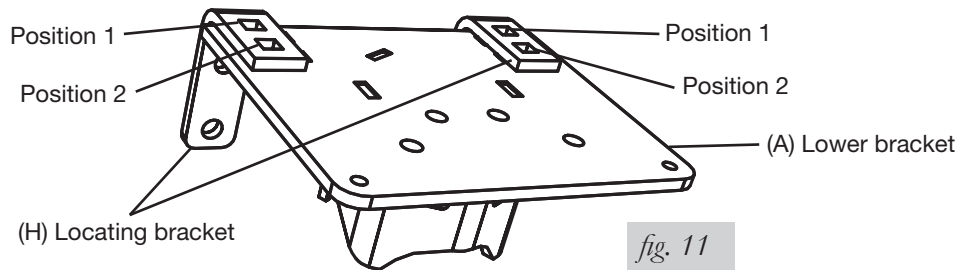

fig. 11
1. Insert a 3/8"-16 x 5.5" hex head bolt (K) and 3/8" flat washer (U) into one of the two bottom holes of the locating bracket (H) (Fig. 11).
- 2a. If you are installing this kit on a single rear wheel (SRW) vehicle, use position 2 to insert the long 3/8"-16 x 10" carriage bolt (P) through the top of the locating bracket and lower bracket (Fig. 11).
- 2b. If you are installing this kit on a dual rear wheel (DRW) vehicle, use position 1 to insert the long 3/8"-16 x 10" carriage bolt (P) through the top of the locating bracket and lower bracket (Fig. 11).
3. Attach the locating bracket (H) to the lower bracket with a 3/8"-16 x 1.25" carriage bolt (O), 3/8" flat washer (U) and 3/8"-16 nylon lock nut (T) using the remaining slot in the top of the locating bracket. Leave loose at this time.
5. Using the 3/8"-16 x 5.5" hex head bolts (K) and 3/8" flat washers (U) previously installed on the locating brackets, insert them into the spring clamp bar (E) on the opposite side of the leaf spring assembly (Fig. 11). Cap with 3/8" flat washers (U) and 3/8"-16 nylon lock nuts (T). Leave loose at this time.